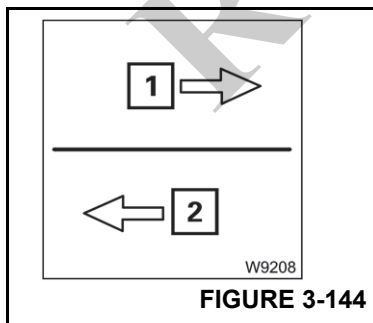

FIGURE 3-144
- The arrow (1) (Figure 3-144) for the indicated telescoping direction flashes if you move the control lever in the wrong direction.
- If you move the control lever in the correct direction, ECOS telescopes the boom automatically until the direction has to be changed. Then the arrow (2) for the new telescoping direction is indicated, e.g. for Retracting.